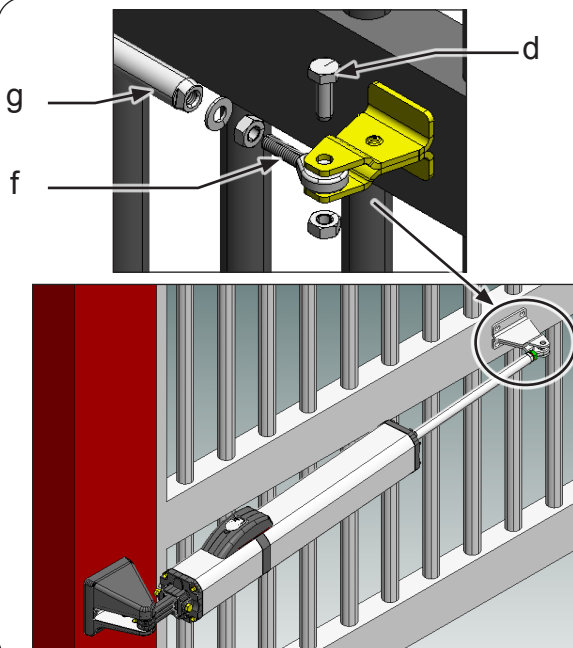

Fig.24
2. Remove the screw in Fig. 24 ref.d from the front fitting
3. Remove the joint (Fig.24 ref.f) from the operator stem. (Fig. 24 ref. g).